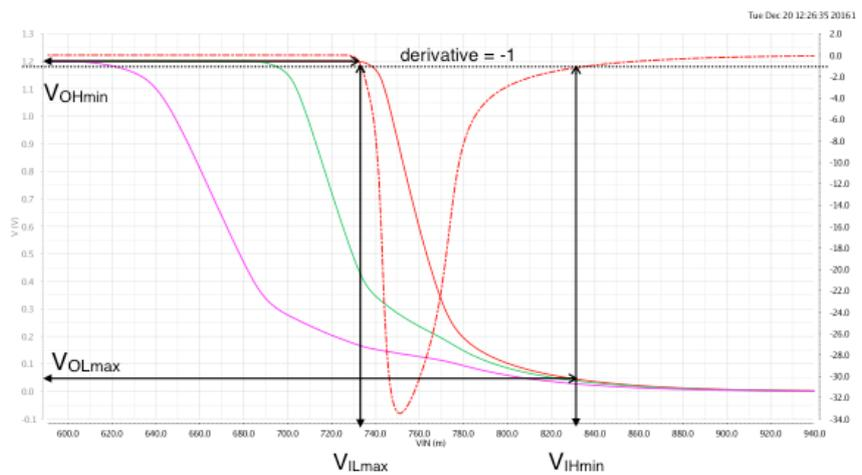

Figure 12.13: VTC with voltages necessary to calculate noise margins for output X indicated.
- b) In Figure 12.13 below the two points that define the four voltages are shown. The resulting values are: For high level $MNH = V_{OHmin} - V_{IHmin} = 1.19 \text{ V} - 0.832 \text{ V} = 0.358 \text{ V}$. For low level $MNL = V_{ILmax} - V_{OLmax} = 0.735 \text{ V} - 0.05 \text{ V} = 0.73 \text{ V}$. As could be expected from the VTC the noise margins are not very equal so this inverter is not that well designed.